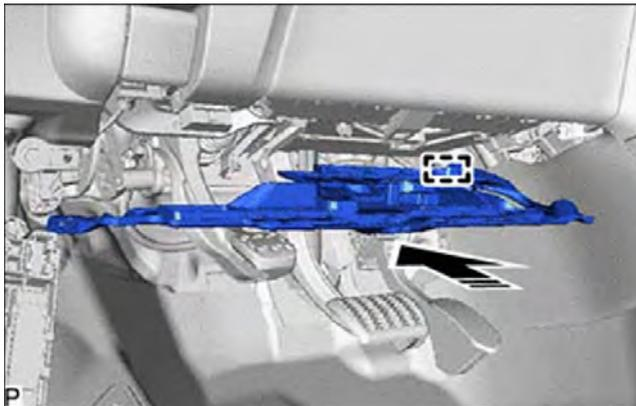

Figure 71
- (b) Engage the guide, as shown in Figure 71.